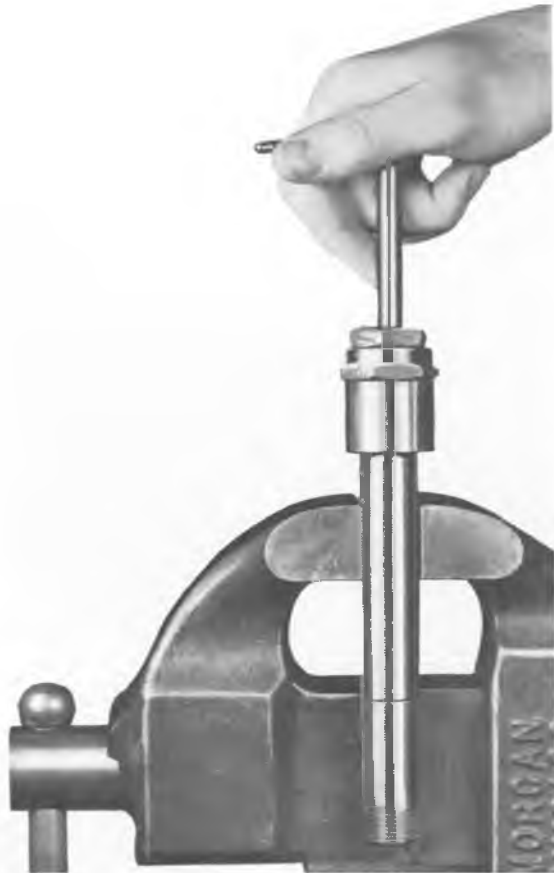

Fig. 2-34 - Reaming Test Valve Seat
1. If a cylinder test valve is leaking, check that packing nut, Fig. 2-32, has been torqued to 81-88 N-m (60-65 ft-lbs). If nut has been overtightened, change seal, Fig. 2-32, and correctly torque packing nut. Should valve continue to leak, remove the valve from the engine and ream the valve seat as shown in Fig. 2-34.